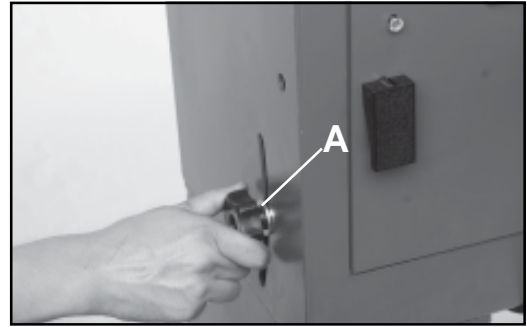

Fig.07
- 2.) Loosen the motor plate by turning the lock knob (A-Fig. 07) counter clockwise.